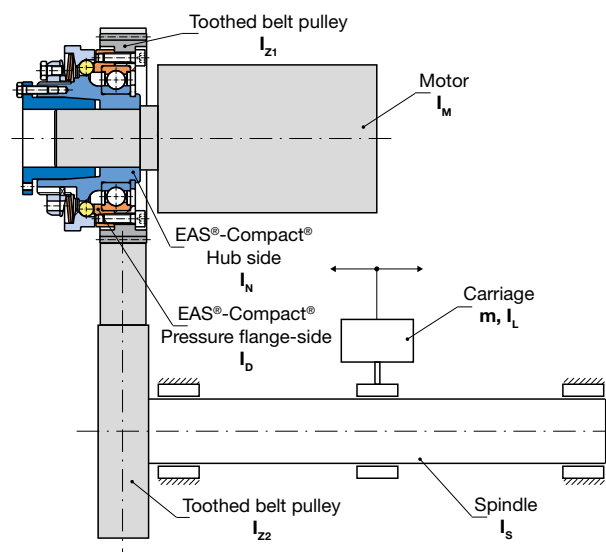

Fig. 2
- ☐ the hub (1) marking overlap and the percent value on the adjusting nut (5) (overload clutch, Figs. 2 and 6).